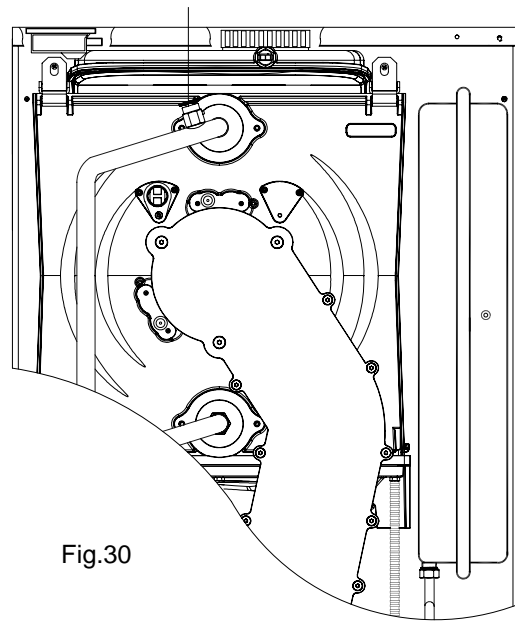

Fig.30
when initially filling the system (with the front cover off) open the manual air vent (fig. 30) taking care to avoid spilling water, and re-close prior to commissioning and operating the boiler.
- Open the manual air vent at the boiler heat exchanger flow pipe, see fig. 30, may require repeating to assist commissioning.